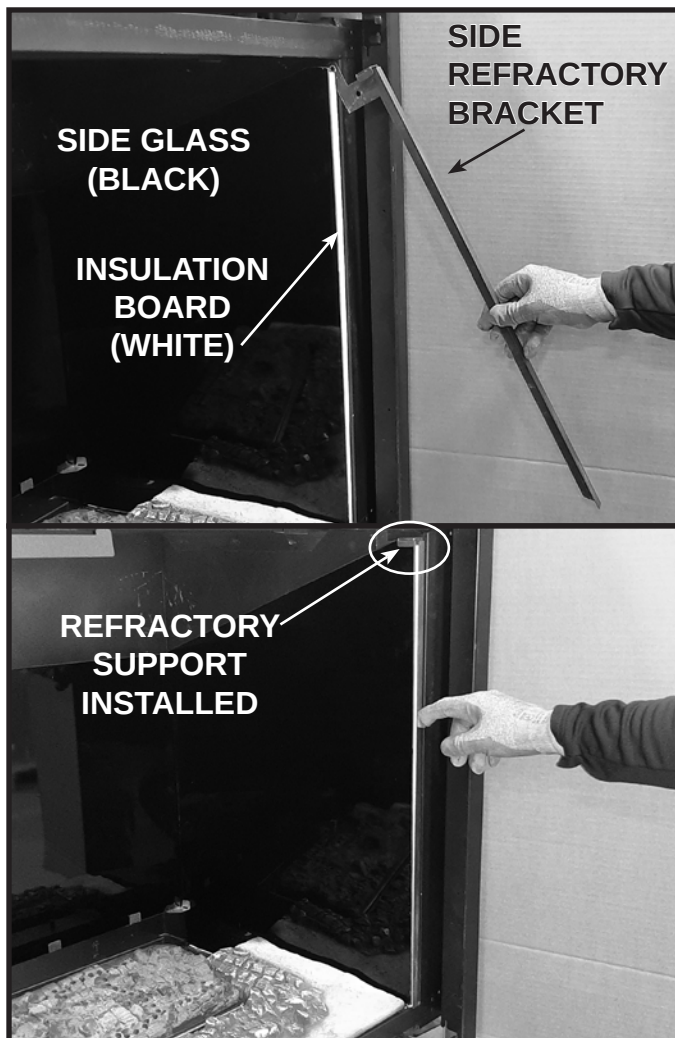
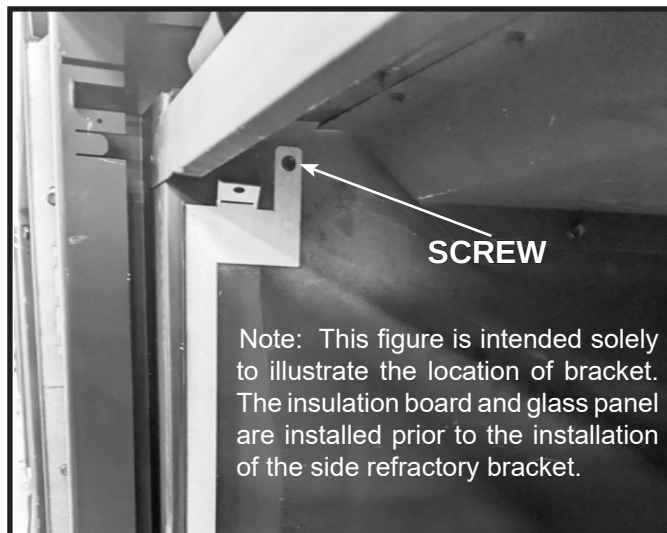
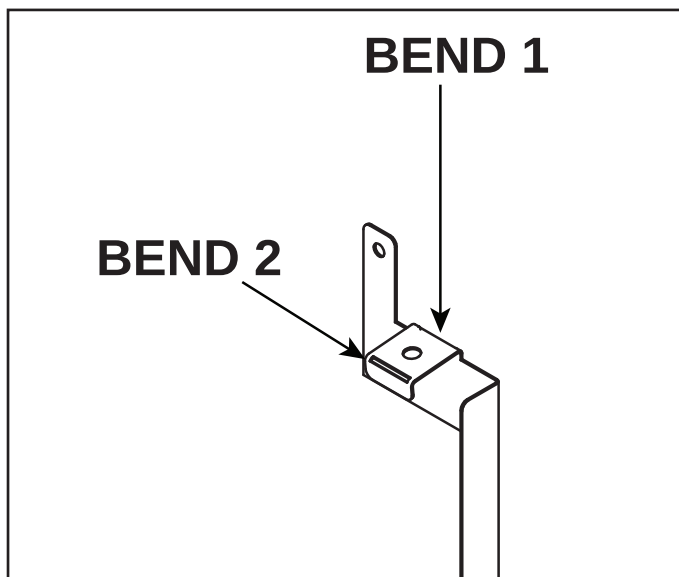
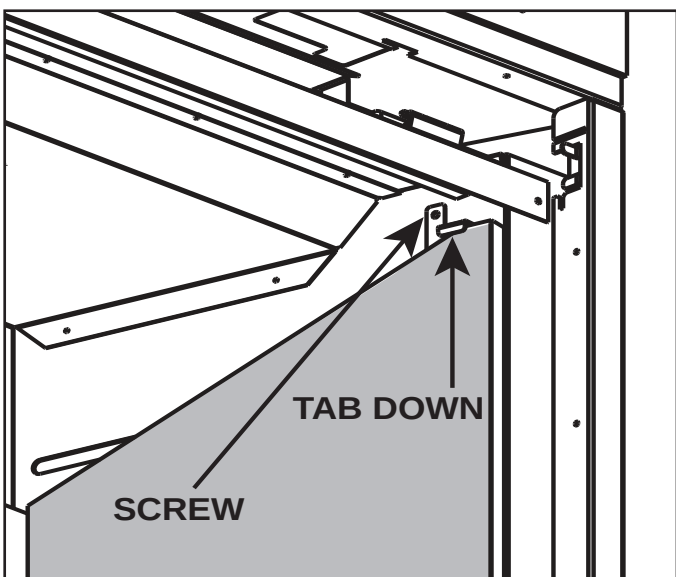

Figure 11.18 Install Side Refractory Bracket with Side Insulation Board and Side Glass Panel
Figure 11.19 Side Refractory Bracket in Position
Figure 11.20 Bend Side Refractory Bracket Tabs
Figure 11.21 Install Side Glass Refractory Bracket
8. Install side glass panel in front of insulation board as shown in Figure 11.19.
9. Bend the side refractory bracket tab down as shown in Figure 11.20, labeled Bend 1. Place the side refractory bracket into position. Put the top in first and orient it as shown in Figure 11.18.
10. Install side refractory bracket between the insulation board and the side of the firebox. Position the side refractory bracket, insulation board and side glass panel upright against the inside wall of the firebox as shown in Figure 11.18. Secure side refractory bracket with one self-tapping screw as shown in Figure 11.19. Bend side refractory bracket tab over glass panel as shown in Figure 11.20, labeled Bend 2. Refractory bracket is shown installed, with the tab bent correctly, in Figure 11.21.